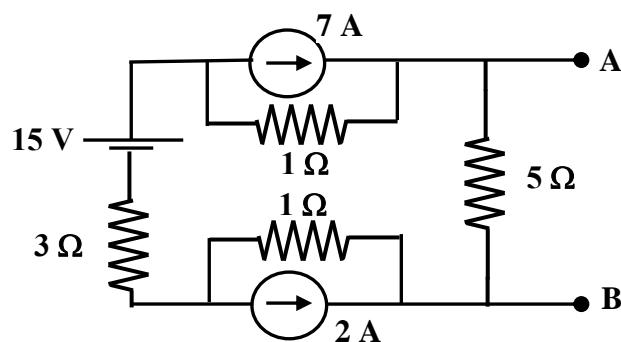

Figure 3
3. Using source conversion method, simplify the given circuit in Figure 3 to its equivalent current source between the terminals AB.